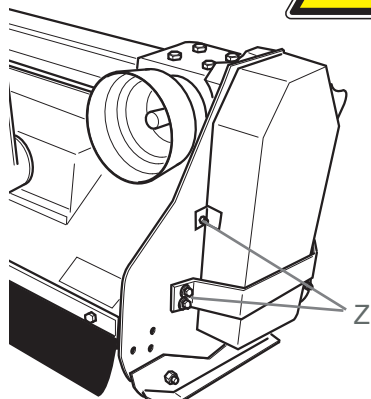

Fig. 41
1) Remove the cover protection and the belt protection cover (casing) by loosening the screws Z (Fig. 41).
2) Loosen the fastening bolts H of the multiplier support (Fig.41).